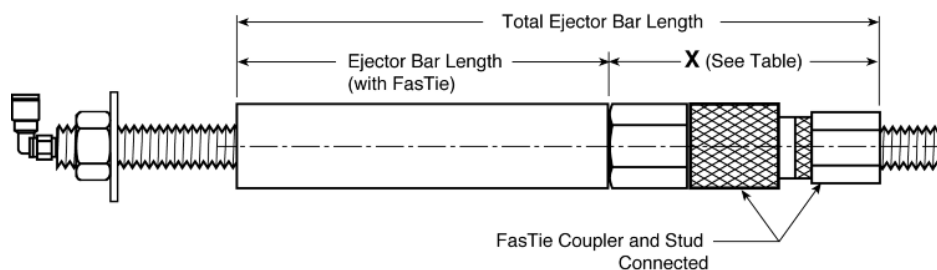

Figure 2
- Result is new FasTie® ejector bar length (*Figure 2*)